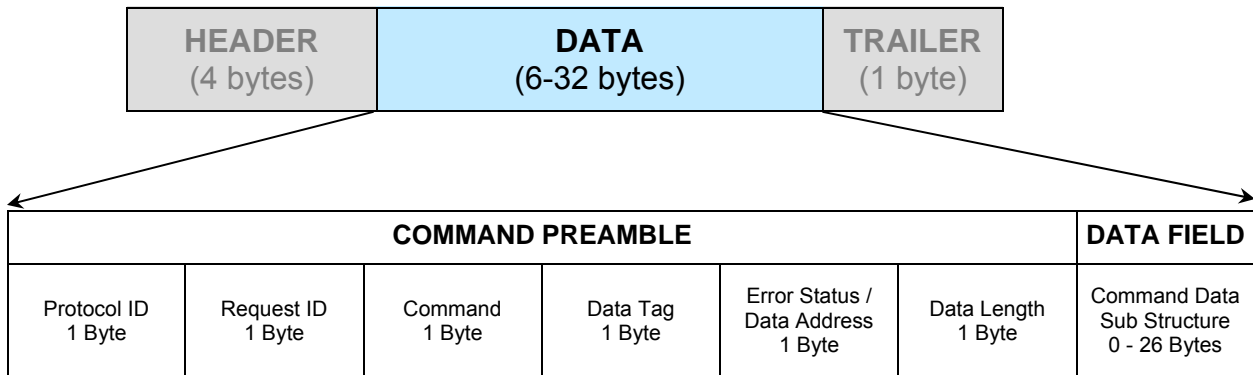

Figure 7-5: Data Sub-Packet
The data sub-packet is comprised of 6 to 32 bytes of information. It is further divided into seven (7) fields as shown in **Figure 7-5**. The first six (6) fields comprise the command preamble while the last field is the actual data.